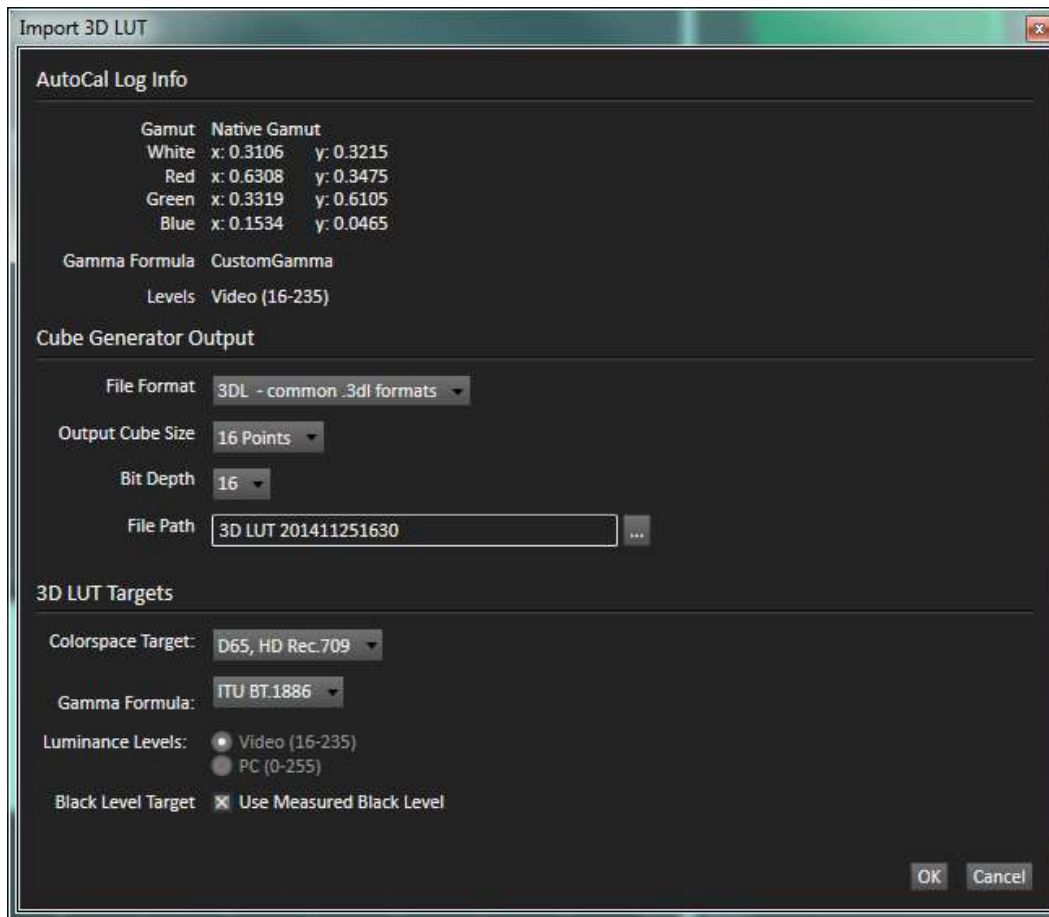

Figure 6: On the Import 3D LUT dialog, select the desired colorspace and gamma targets for your new 3D LUT.
3. On the *Import 3D LUT* dialog that opens (figure 6), select the desired colorspace and gamma targets for your new 3D LUT.